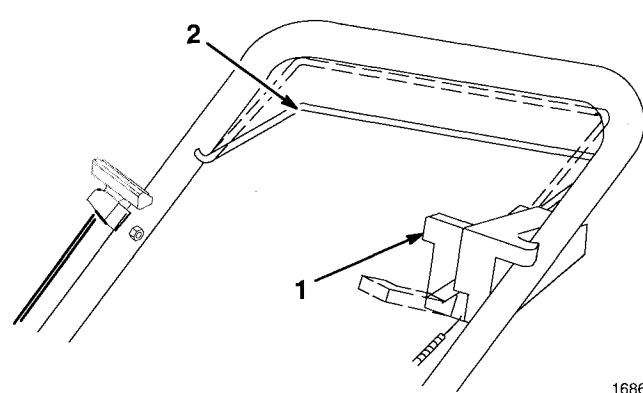

Figure 14
3. Lower control bar halfway and move traction control lever backward (toward operator) (Fig. 14).